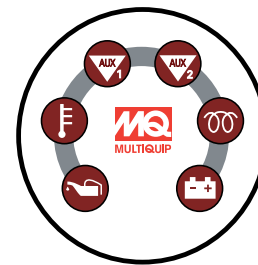

Figure 13. Indicator Lights
5. Turn the ignition key clockwise to the ON position. Aux1, Aux 2, coolant temp and oil indicator lamps will light for 10 seconds (Figure 13). Charge indicator lamp will remain lit until engine starts.